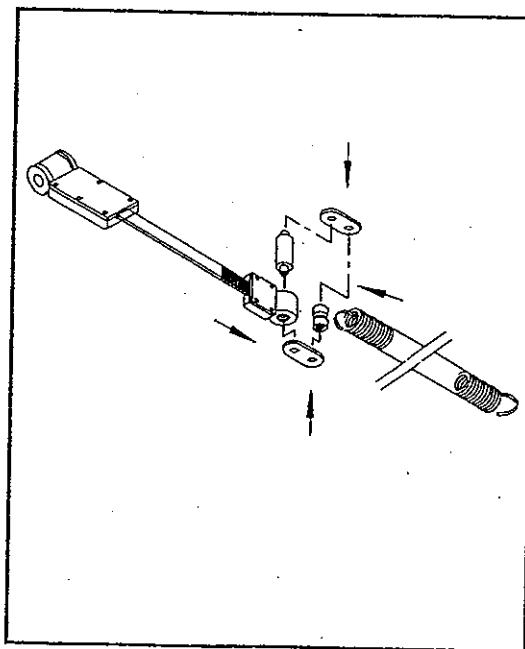

Fig. 13
1. Install a new belt and reassemble all the parts as shown in Fig. 13.